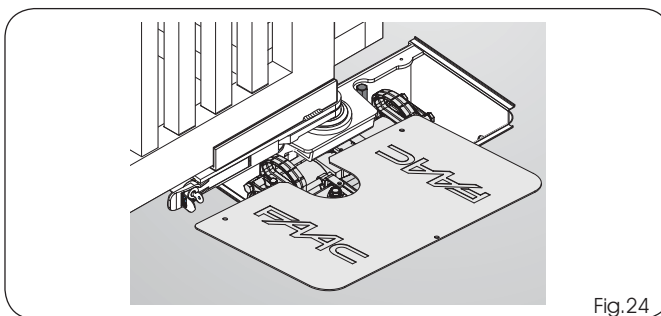

Fig.24
- 2) Secure the cover of the support box with the supplied screws (Fig.24;25).